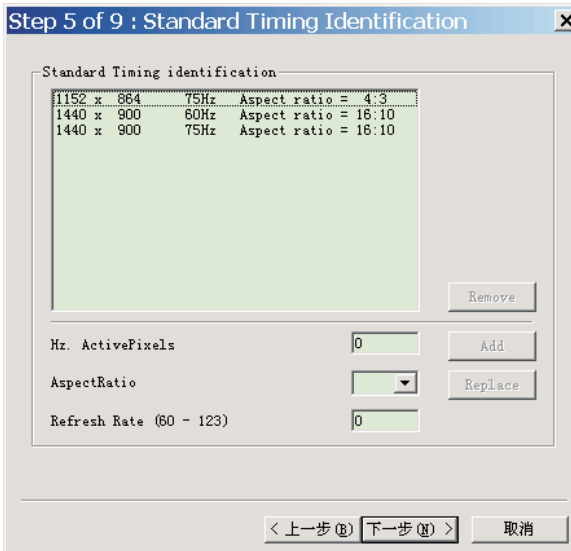

Fig. 35
4. Click Next , bring up Fig. 35.